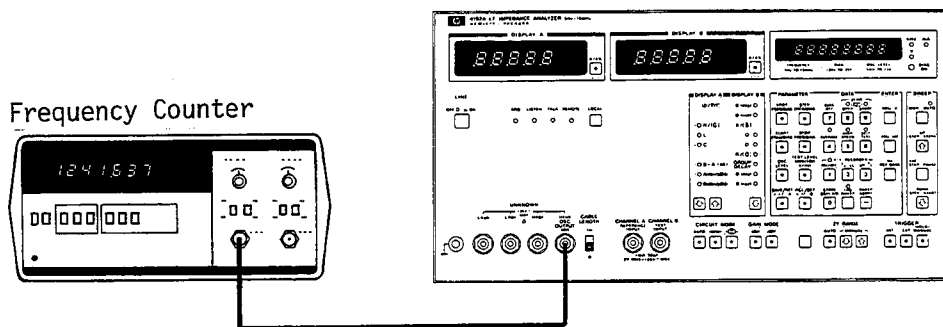

Figure 4-1. Measurement Signal Frequency Accuracy Test Setup
- a. Connect the input of the 5314A to the OSC OUTPUT (H_{CUR}) terminal of the 4192A as shown in Figure 4-1.